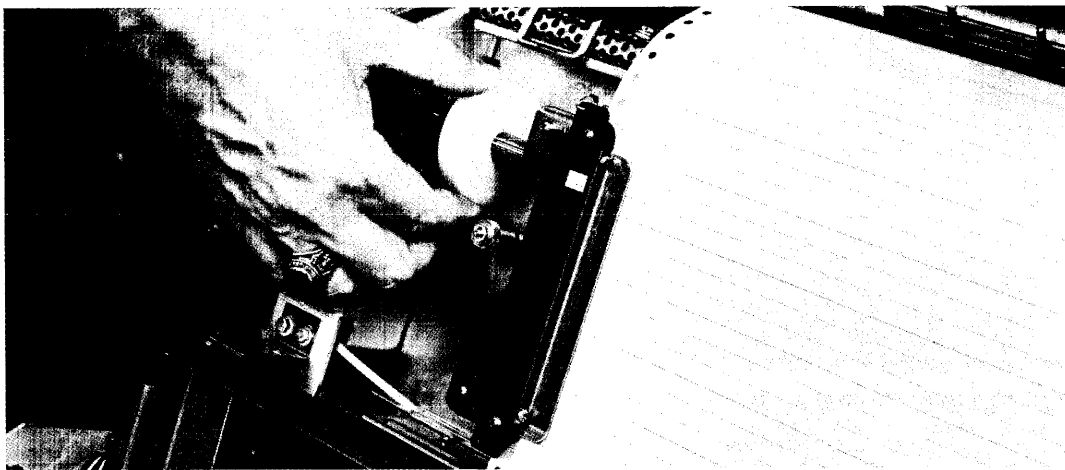

Figure 3-6. Paper Alignment
10. Align the paper perforation with the line indicator by using the line adjustment knob as shown in Figure 3-6.